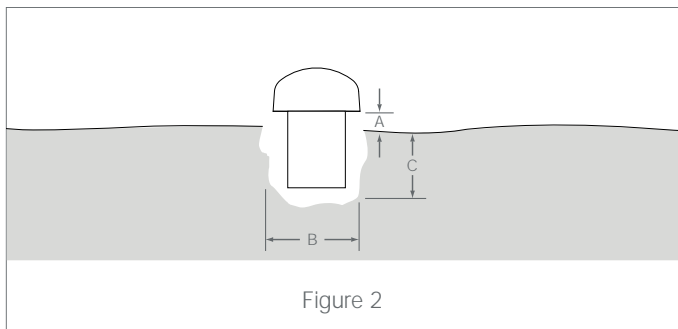

Figure 2
2. Dig the hole using the following guide: See Figure 2.